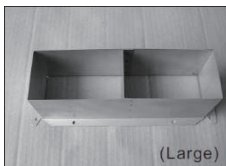

Fig. 4h
- Install the 3-1/4" x 10" rectangular rear vent outlet adaptor. (Fig. 4h – 4i)